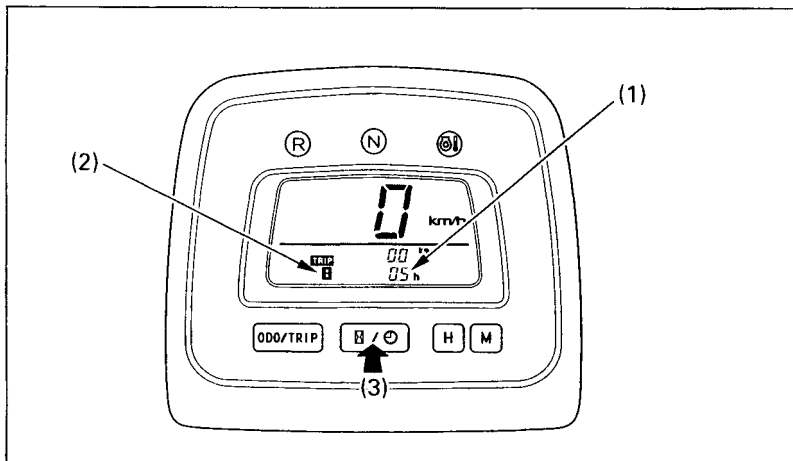

Fig. 2-19 (1) Hourmeter
When selected, the hourmeter (1) (Fig. 2-19) shows accumulated hours while the ignition is I (ON). The hourmeter provides accurate service period information for initial and regular maintenance. To change the display from the digital clock to the hourmeter mark (2), press and release the hourmeter/digital clock select button (3).